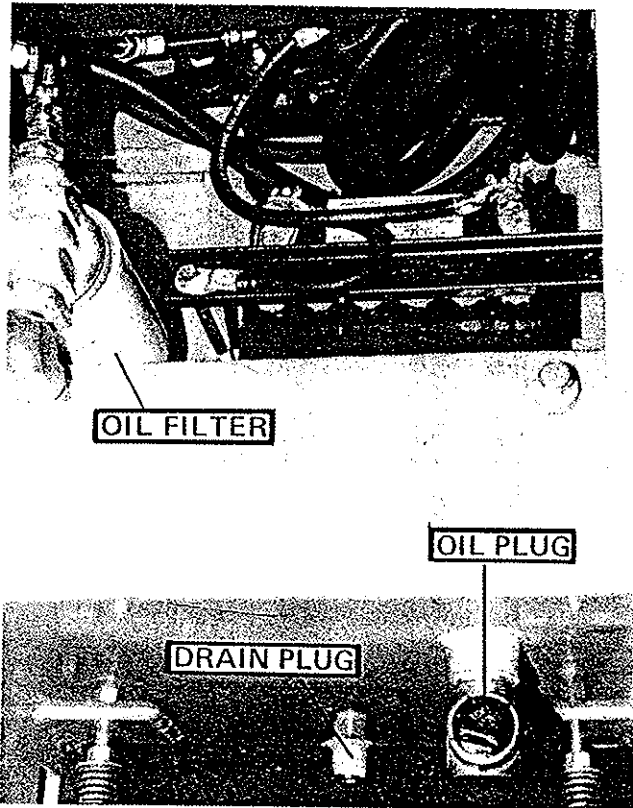

FIGURE 22
2. Remove the oil plug, see Figure 22, and check the level. If oil is apparent, the level is satisfactory.
1. Remove the oil drain plug. See Figure 22, and drain the oil. Remove the oil level plug to ensure a better flow.
1. With the engine stopped, unscrew and remove the old oil filter, see Figure 22.